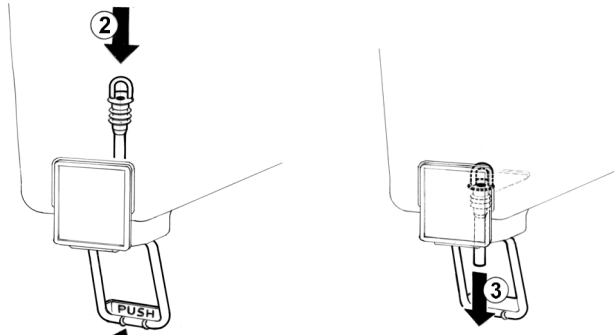

figure 4
- 2 **Pinch tube faucet:** push the dispensing handle (1) and insert the pinch tube into its vertical seat in the bowl bottom (2). Lightly pull the pinch tube end downwards till it is well arranged (3) (see figure 4).